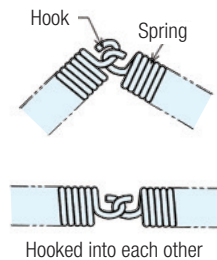

Fig. 9 Spring Installation
- (3) Press the oil seal into the groove bit by bit. When installed, the oil seal should be free of looseness or clearance at its cut.
- (4) Fit the spring around the oil seal. Hooks are provided at both ends of the spring. Use these hooks to fit the spring on the oil seal. Perform the fitting on the raceway surface of the inner ring. After fitting, move and slide along the slope of the inner ring outside diameter to facilitate installation to the spring groove of the seal (see **Fig. 9**).